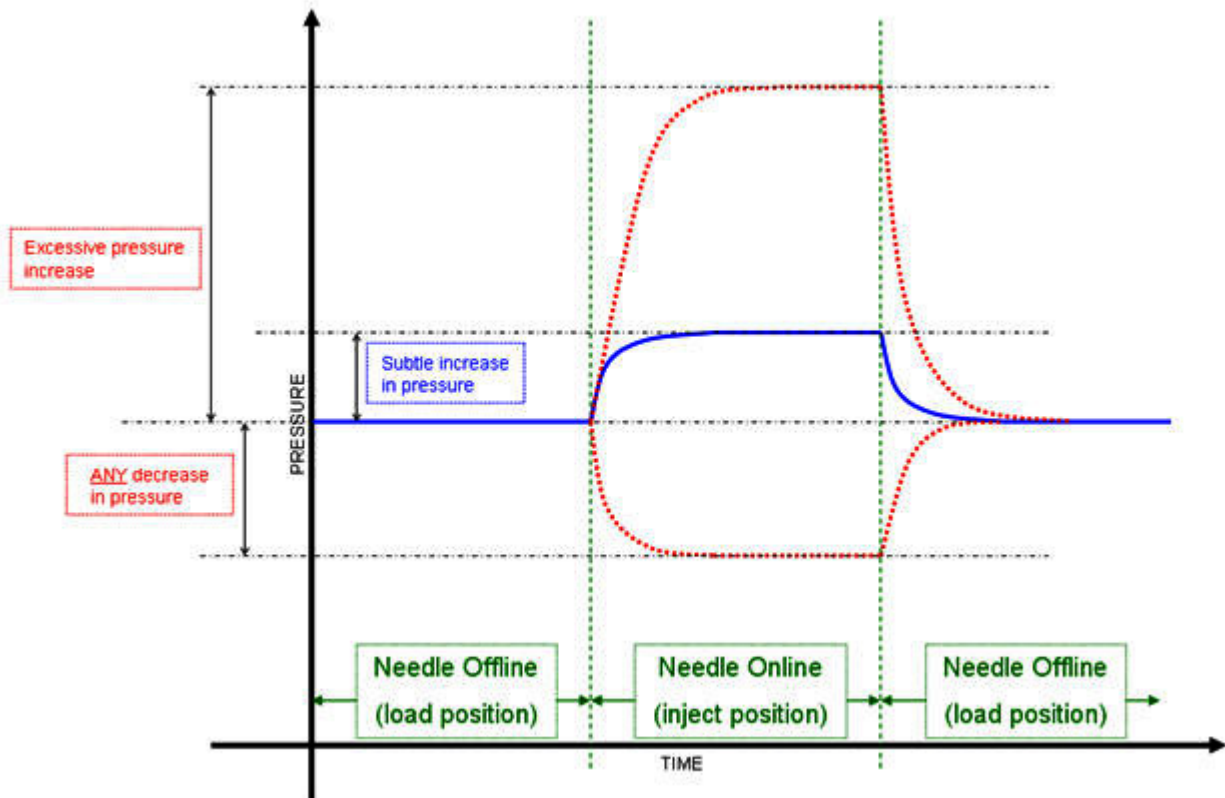

Figure 83 - Needle seal readiness test
1. The sample manager moves the injection valve to the load position and monitors the solvent manager pressure (Figure 83).